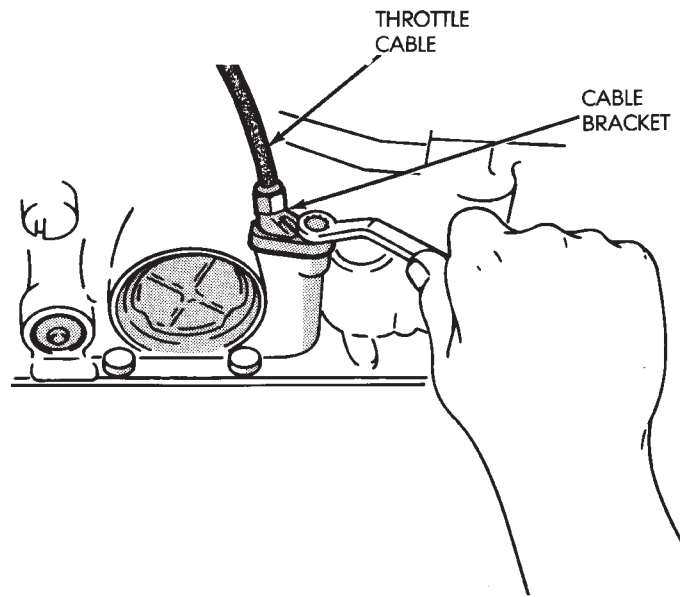

Fig. 43 Removing/Installing Transmission Throttle Cable And Bracket
(5) Remove cable bracket bolt and remove cable and bracket from case (Fig. 43).
(6) Remove and discard cable seal.
(4) Install cable bracket on case and tighten attaching bolt to 10 N·m (7 ft-lbs) torque (Fig. 43).
(5) Remove old sealer material from oil pan and transmission case. Clean oil pan with solvent and dry it with compressed air.